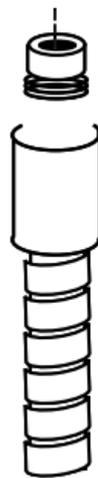

Figure 1
- **Changing the Ion-Pump® sensor:** Eventually, the Ion-Pump® sensor will need to be replaced. This condition is usually indicated by abnormal or erratic performance when the instrument is in the lowest sensitivity range. Install the new sensor as indicated in Figure 1 (turn the unit OFF before attempting to change the sensor). CPS® recommends that you change the Ion-Pump® sensor at the beginning of every AC & R season and always have a spare sensor available for replacement in the field.